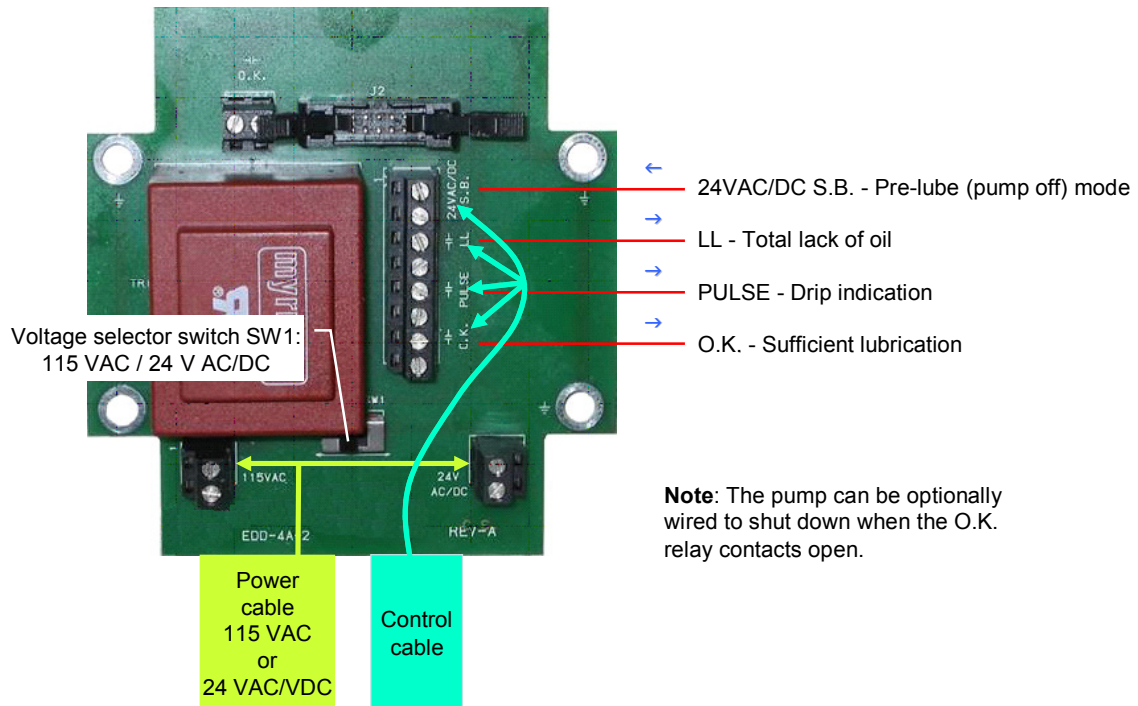

Figure 5: Connection box – electrical terminals: 115 VAC unit shown
Wire the connection box according to Figure 5. Connections are described in detail in Table 1 on page 11.
1. Set the power switch SW1 located just below the transformer, for line power (115 VAC or 220 VAC) or 24 V AC/DC according to your requirements. See Figure 5.
To select the Pre-lube mode, 24 V AC/DC must be applied to the S.B. terminals in the connection box (Figure 5). In this mode, the drip rate is automatically set to 2 dpm.